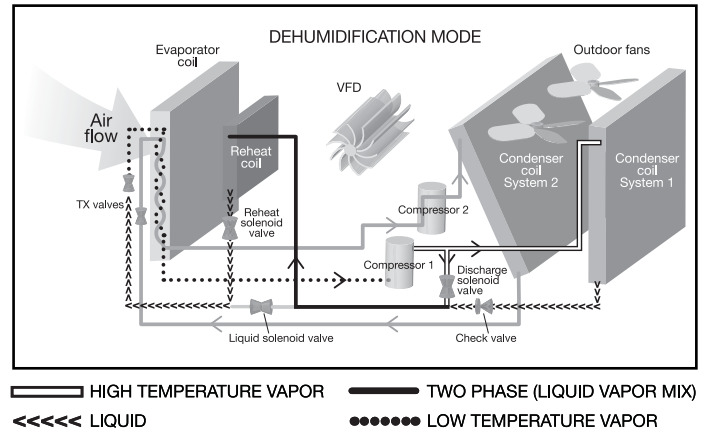

Figure 2
Figure 2 shows the refrigerant path during the reheat mode. When the reheat cycle is energized by the RTU-C, the reheat solenoid valve (39), downstream of the reheat coil (40), opens. The liquid solenoid valve (41), ahead of the TXV, closes. The discharge solenoid valve (42), in the compressor discharge line, opens. The liquid refrigerant leaves the TXV with the sudden pressure drop causing the liquid to expand to a vapor and absorbing the heat from the supply air going through the evaporator coil. The refrigerant vapor then travels to the compressor where it is elevated to a higher pressure and temperature. The refrigerant next carries the heat to a parallel path between the outside condenser coil and a bypass circuit. Some of the heat is rejected outdoors. The ratio of heat rejected outdoors versus indoors is controlled by an outdoor fan motor controller (OFMC) (43) that monitors the two phase temperature (44) and varies the fan speed. This 2-phase refrigerant vapor is then sent to the reheat coil. As the refrigerant travels through the reheat coil it condenses into a subcooled liquid where the process repeats itself.